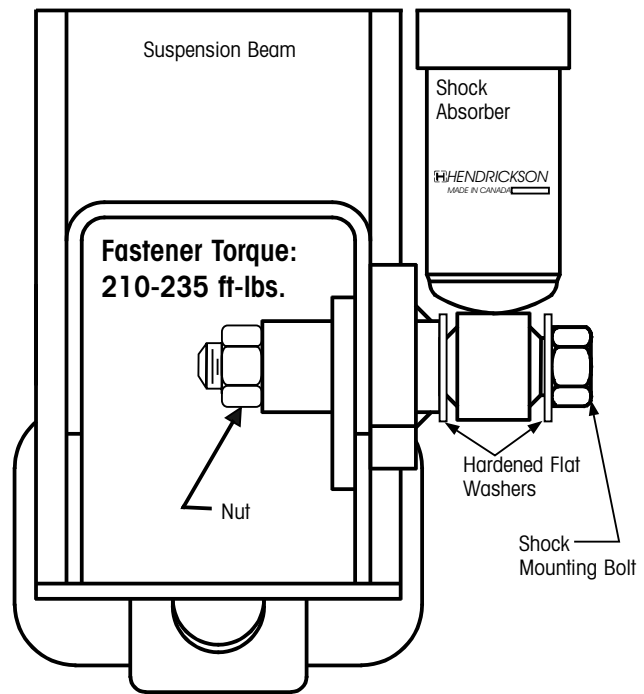

Figure 4. Visually check components
13. Visually check all components for tightened fasteners (Figure 4).